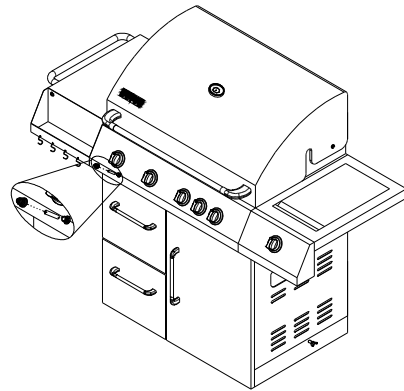

Figure 14
2. Place the manufacturer supplied AA battery into the ignitor slot. Be sure to place the positive pole facing toward you. (Fig. 14)